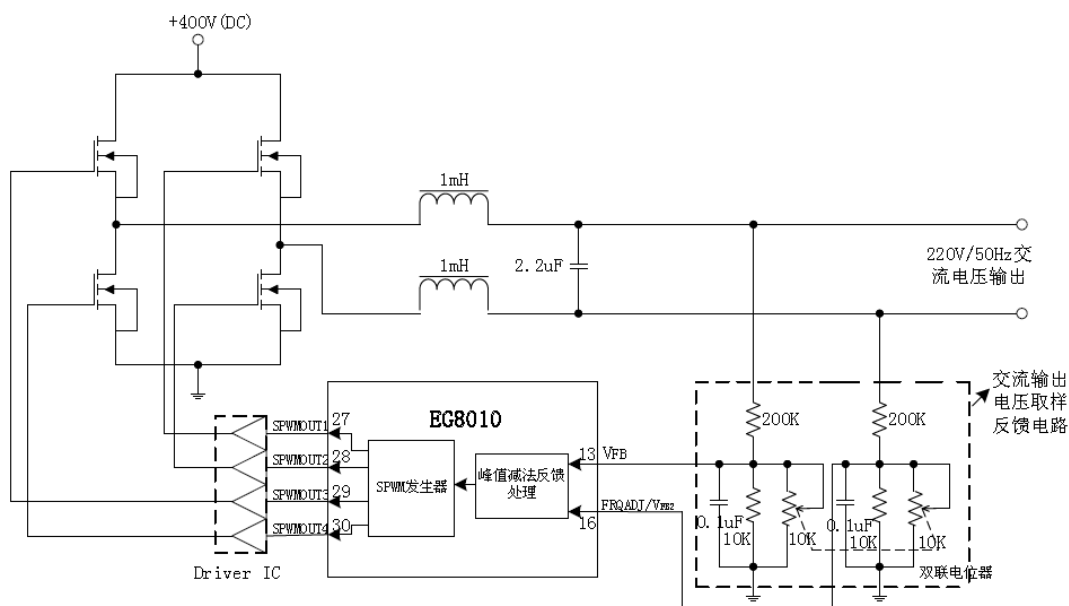

Figure 8.1c EG8010 the bipolar modulation output voltage feedback circuit
EG8010 chip operation modes the unipolar modulation and bipolar modulation, unipolar modulation only leg (the EG8010 pin SPWMOUT3, SPWMOUT4) do the SPWM modulation output, the other leg (the EG8010 pin SPWMOUT1 SPWMOUT2) doing the fundamental output filter inductor when the application needs to be connected SPWM modulation the bridge arm output terminal, the feedback voltage sampling circuit also connected to the output terminal of the inductor in the the SPWM modulation bridge arm, as shown in figure 8.1a. The bipolar modulation Shuangqiaoshan arm (EG8010 pin SPWM3,, SPWM4 SPWM1 SPWM2) at the same time do SPWM modulation output applications use two-way the inductor filter characteristics will be better voltage sampling the feedback circuit requires two voltage divider network to do the differential feedback process, as shown in Figure 8.1c.
Figure 8.1b for the actual testing of the unipolar modulation waveform, EG8010 with a peak point sampled output voltage regulator, high precision voltage regulation speed, when for some reason cause the output voltage deviation, such as changes in load or input voltage fluctuations The other factor, EG8010 1-3 AC cycle adjusted to the desired output voltage. Bipolar modulation mode, the the EG8010 chip voltage feedback process is to measure the right leg of the output voltage via pin (13) the VFB measuring the left leg of the output voltage and the pin (16) FRQADJ/VFB2 VFB2 function only this when FRQADJ FM function is disabled, the circuit structure shown in Figure 8.1c voltage feedback section, two differential feedback to measure peak differential voltage and internal reference sine wave peak voltage of 3V error calculation, a corresponding adjustment to the value of the output voltage, the internal circuit error multiplier coefficients of adjustment factor value calculated to achieve the regulation process, bipolar modulation can also be adjusted to a desired output voltage within 1-3 AC cycle.